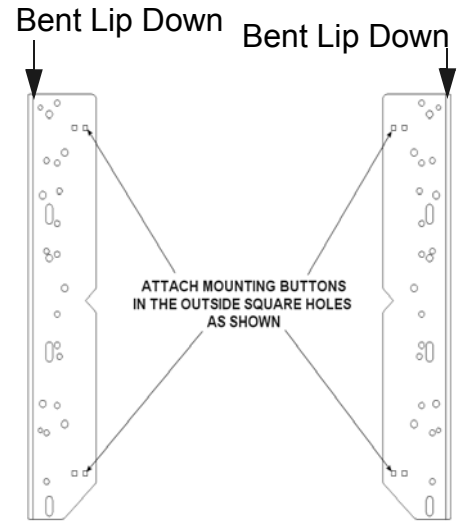
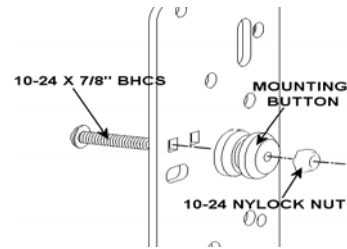

Figure 4. Brackets for Groups 12-16 with Bent Lip Down
Figure 5. Button Installation for Groups 12-16
1. Lay the interface brackets out with the bent lip of each interface bracket down (see Figure 4).
3. Using the mounting buttons and hardware in the parts bag labeled A, attach the mounting buttons in the square holes closest to the outer edge (outside) of the interface bracket (see Figure 4 and Figure 5).